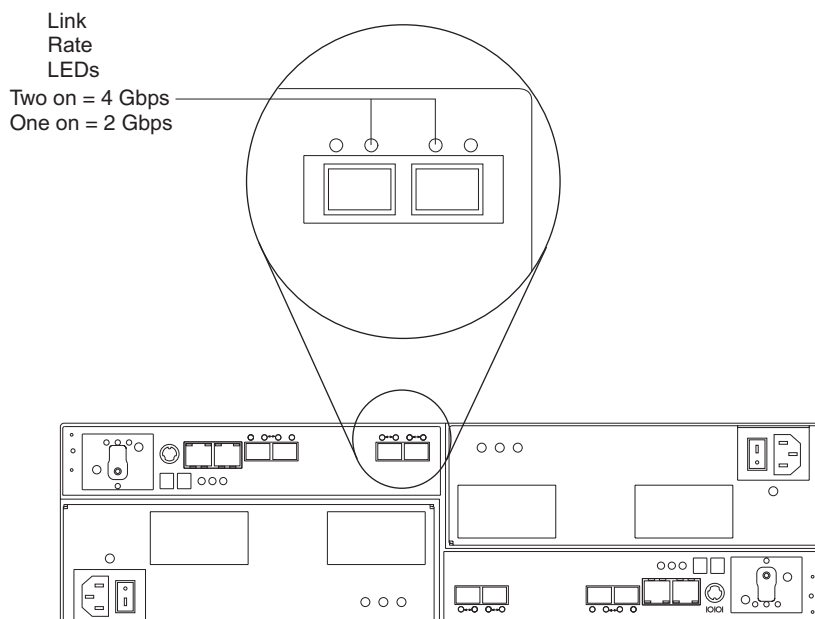

Figure 81. Link rate LEDs
2. Locate the link rate indicator LEDs. Figure 81 on page 140 shows the location of the link rate indicator lights on the back of the storage subsystem.
4. Locate the link rate switch. Figure 81 shows the location of the link rate indicator light on the front of the command module.